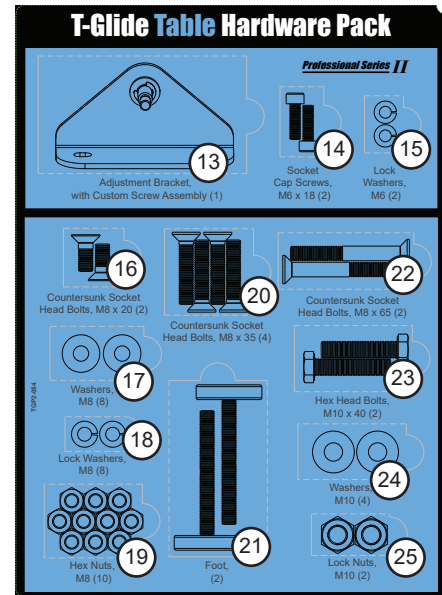

Fig. 15
- Once the rails are in place you can mount the extension table to the rails. The hardware needed to mount the extension table to the rails is in the T-Glide Table Hardware Pack (See Fig. 15).